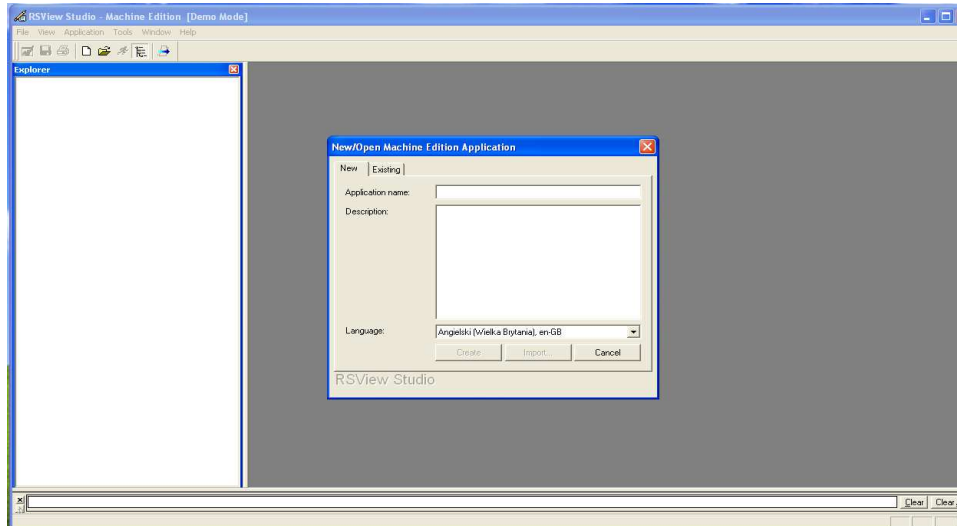

Fig. 29. Creating of the new PanelView project
1. click *File -> New application*, the window (Fig. 29) will appear